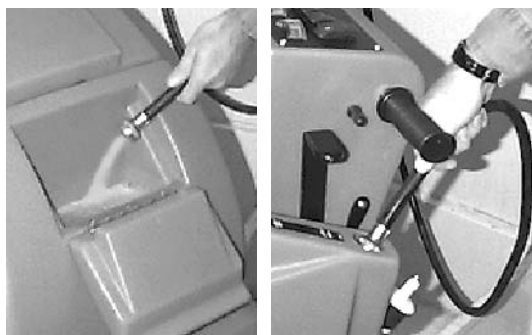

FIG. 9
3. The solution tank is equipped with front and rear filling ports for your convenience (Figure 9). Fill solution tank with 17 gal / 64 L of clean water, 140° F / 60° C maximum temperature. The clear tube below the rear fill port indicates the amount of water in solution tank.